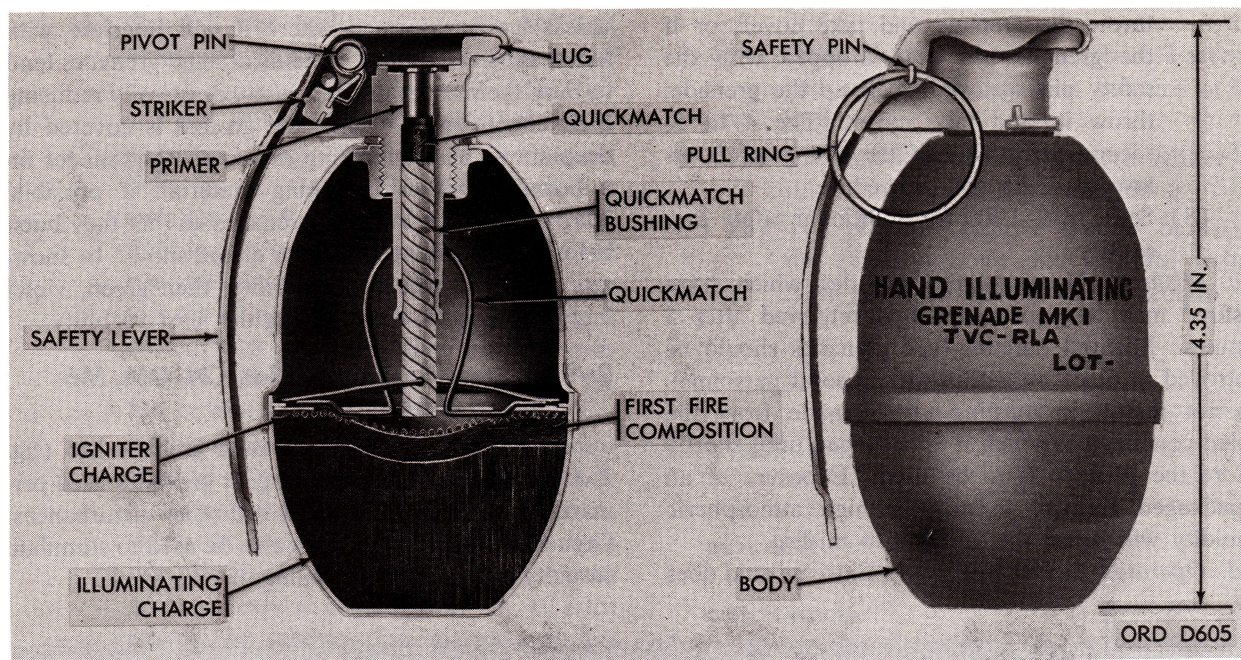

Figure 2-9. Grenade, hand: illuminating, Mk1 with fuze.
a. General. This grenade (fig. 2-9) resembles, in outward appearance, the fragmentation hand grenade M26 series. The Mk1 is the only type of illuminating hand grenade currently available and was developed by the Navy. It is used for illuminating and signaling purposes. The grenade may also be used as an incendiary grenade to start fires in dry grass, leaves, or brush.
- (1) *General.* The illuminating hand grenade Mk1 consists of three basic parts: an illuminating charge, a body, and a fuze. The illuminating charge consists of a pyrotechnic composition ignited by a first fire composition which, in turn, is ignited by an igniter charge. The body is fabricated from thin sheet steel. The fuze is a special igniter-type fuze. The igniter consists of a quickmatch contained in a quickmatch bushing.
- (2) *Data.*